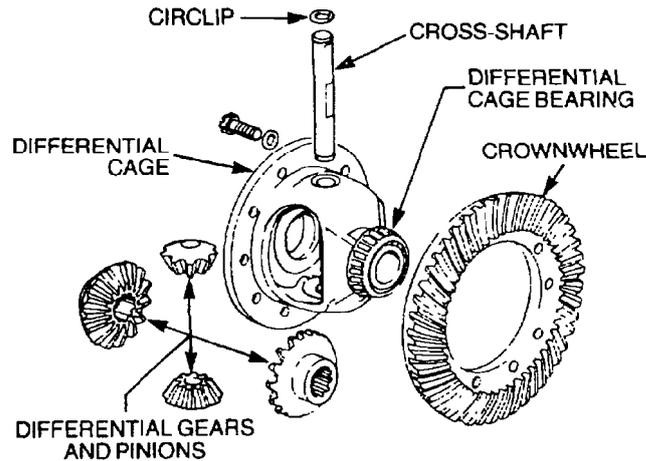

Figure 236 Differential Disassembly
- i. Remove the bolts and lock-washers securing the crown wheel to the differential flange and remove the crown wheel (Figure 236). Discard the lock-washers
- j. Remove the two circlips retaining the differential cross-shaft, remove the shaft and remove the differential gears and pinions (Figure 236).